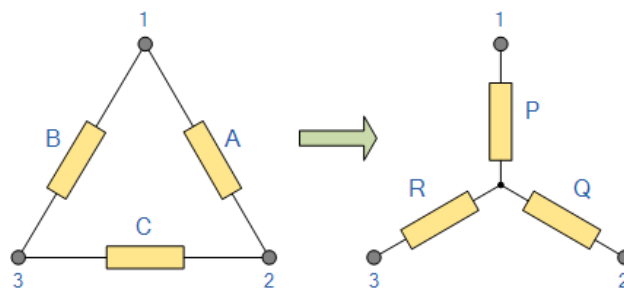

Figure3.1: Delta to Star Conversion
2. Connect the circuit on the bread board as shown in the figure 3.1 and 3.2.